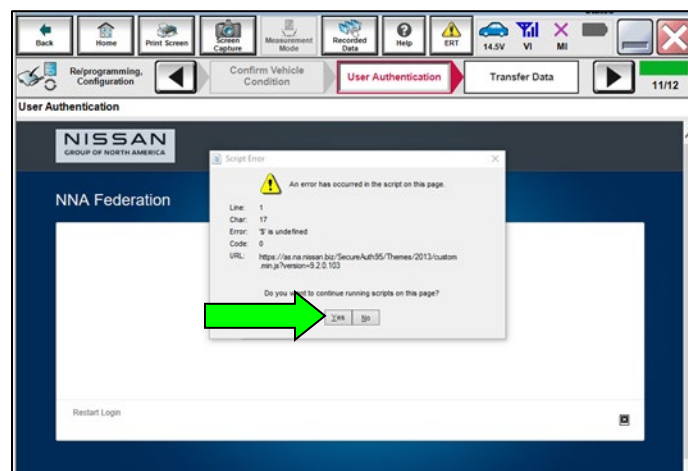

Figure 31
50. If the Script Error shown in Figure 31 is present, select **Yes**.